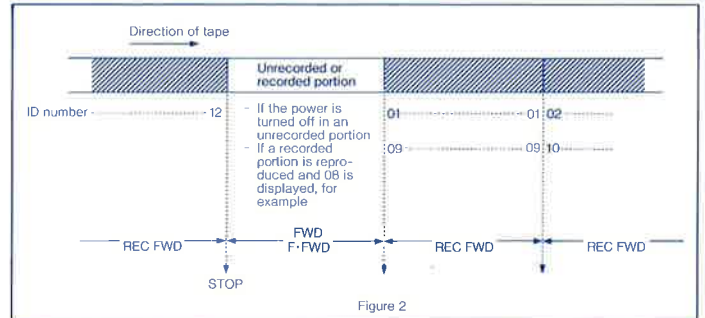

Figure 2
- If there is an unrecorded portion of tape during continuous recording, and the power is turned off, ID numbers for the next recording operations start from 01. (See Figure 2.)